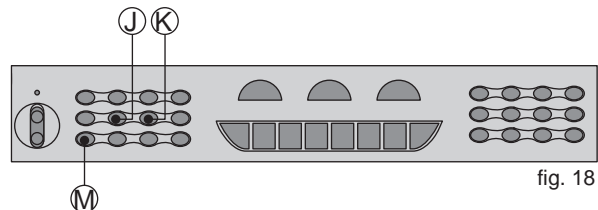

fig. 18
- To enter recording mode press Record (J). Notes played will be recorded in the memory (up to a maximum of 40). Press Playback/Effect (K), to play stored notes. To listen again, just press Playback/Effect (K) again. For a new recording, please repeat the above steps. Press Stop (M), to quit the function. **See fig. 18**